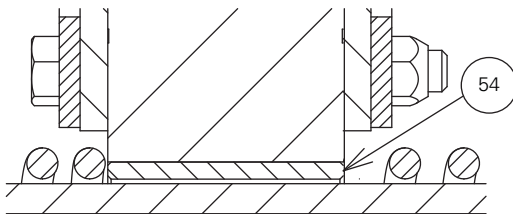

Figure 21
Note: Some pressure plate and reaction plates have bushings installed in the reaction holes. (Typically corrosion resistant units, WCB2 tensioner/brake assemblies). See Figure 21. If applicable, replacement of the bushings can be performed per the following procedures.
4.7.2 Refer to Figure 21 for the bushing location and Table 13 for the wear limits of the bushings (54) to determine if replacement is required.